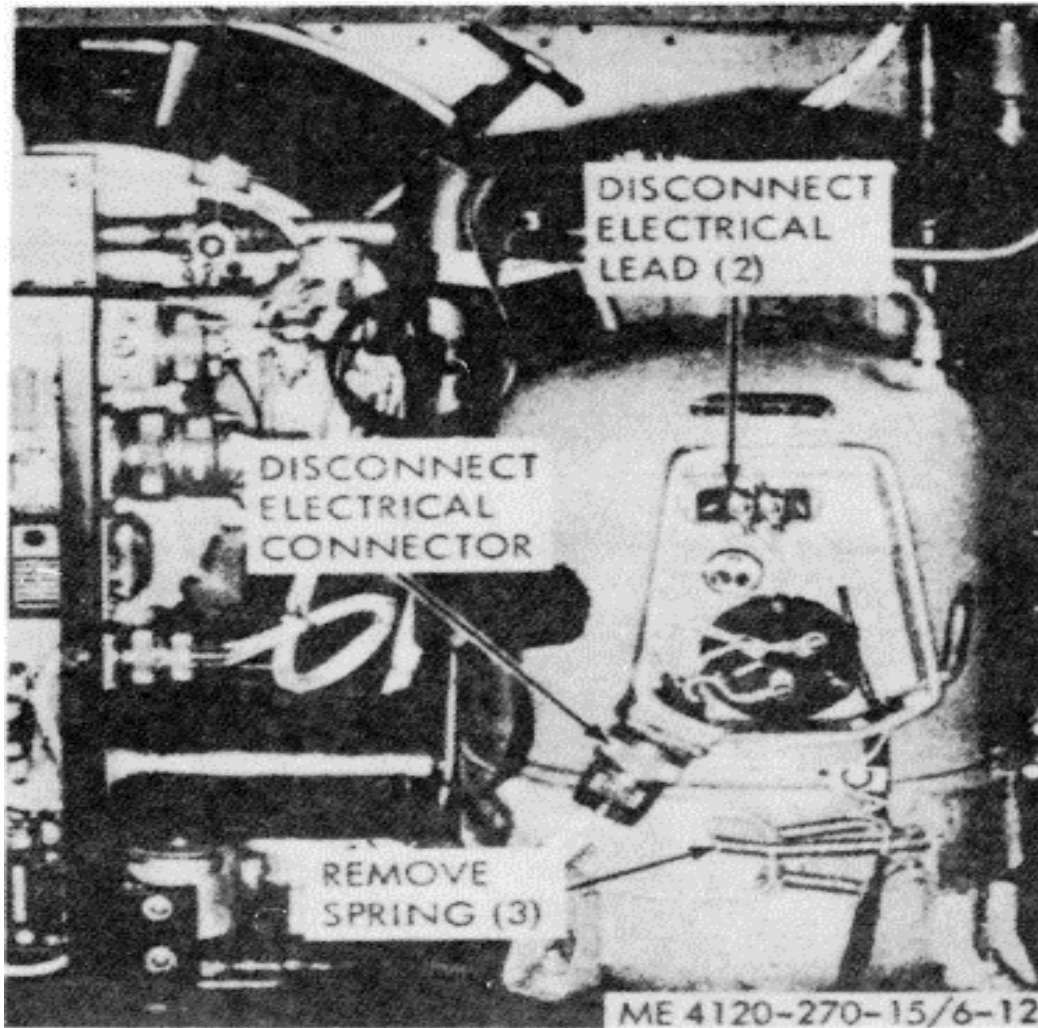

Figure 6-12. Compressor crankcase heater, removal and installation.
**b. Removal.** Refer to paragraph 5-24, and remove the compressor. Refer to figure 6-12 and remove the crankcase heater.
**c. Installation.** Replace defective heater and install in reverse order of removal as illustrated in figure 6-12. Refer to paragraph 5-24, and install the compressor. Test, evacuate and recharge the refrigerant system (para 6-28, 29, 30).